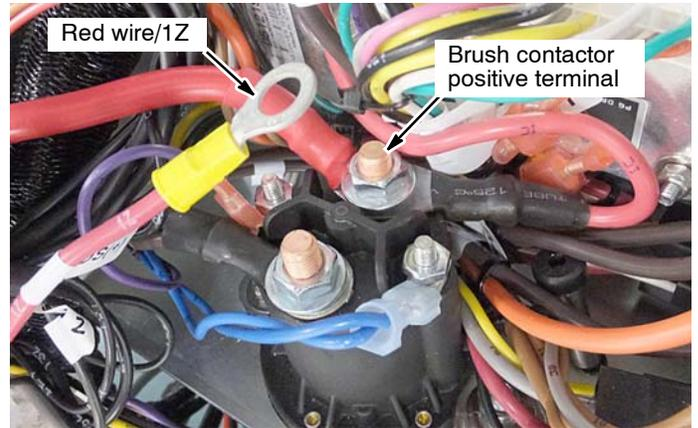

Fig. 10
- Connect the ec-H2O harness red wire/1Z to the positive brush contactor terminal (Figure 10).